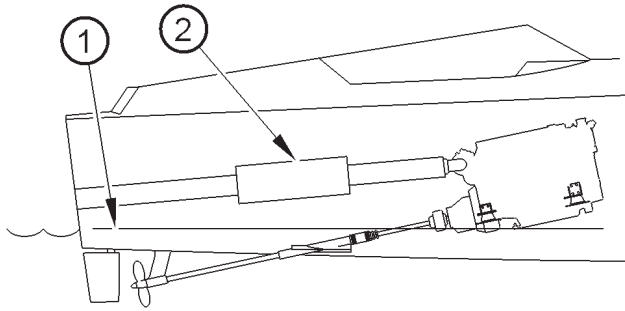

Figure 7
Figure 7 shows an engine sited well above the waterline (1), with a gradient steeper than 5° to the back of the boat. The water will run naturally down the exhaust to the stern. To reduce noise a straightforward in-line silencer (2) should be used.